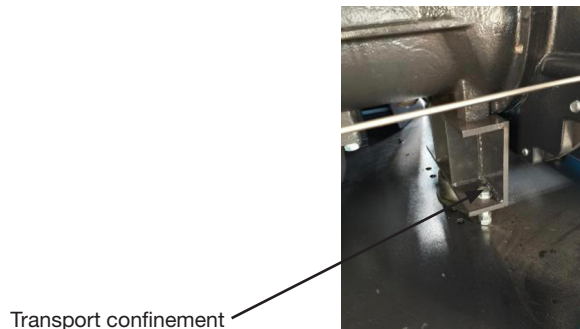

Figure 2. Fastening bolts
- a. To prevent damage to the air compressor from bumps during storage and transport, some models are shipped with the transport fastening screws locked in place. The user must loosen the fasteners before use. See Figure 2.